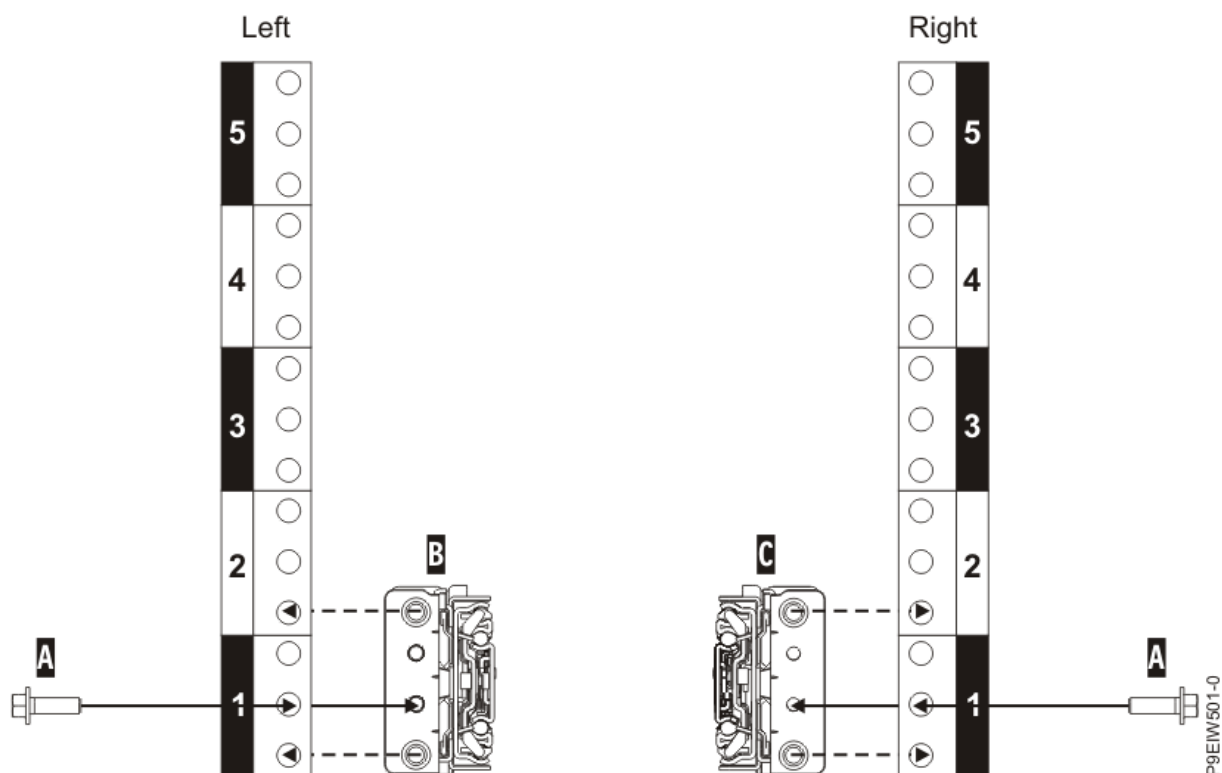

Figure 5: Attaching the slide rails at the rear of the rack
10. Attach the left slide rail (B) and right slide rail (C) with a M5x16mm screw (A) as shown in Figure 5 on page 6. Insert and tighten each screw into the threaded slide flange hole, located in the middle hole of the lowest EIA rack unit.